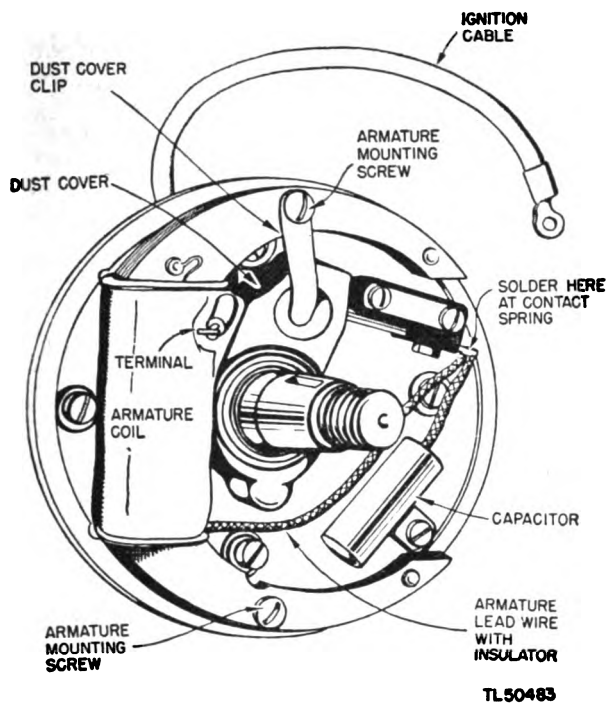

Figure 59. Complete magneto assembly.
d. MAGNETO, BRIGGS AND STRATTON ENGINE (fig. 59). On the Briggs and Stratton engine, the cable should be soldered to the secondary terminal loop (the small brass plate extending from the coil). Avoid touching the coil with a hot soldering copper. For trouble in the cable, see a(1) above.
(4) *Ignition cable.* Insulation must not be broken or soaked with oil or water, or grounded in any way where it touches the engine. Any one of these faults will interfere with the ignition system and prevent good ignition. It is necessary to remove the blower case to check the cable all the way to the magneto. Be sure that the cable is securely fastened to the secondary terminal of the coil. (See fig. 59.)